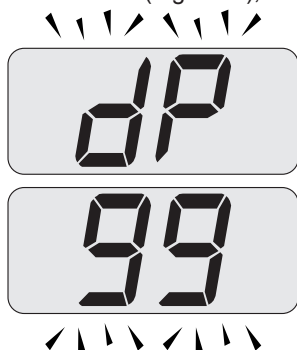

Fig. 9.23
- Press further key 13 to vary again the output in chimney sweep mode: when the LCD display displays the letters **dP** that alternate with the heating water temperature value (e.g. **99**), the "chimney sweep function" is at maximum output in domestic hot water mode (Fig. 9.23);